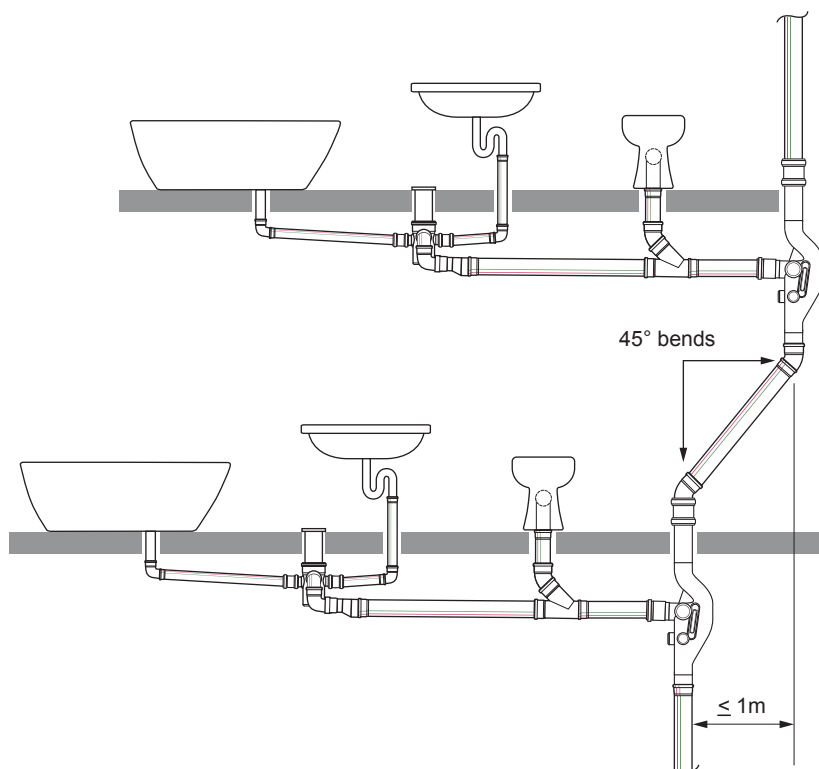

Figure 2.5 Example of RAUVENT stack with steep offset.
- The offset must be made at 45° and must not exceed 1m as shown in Figure 2.5.